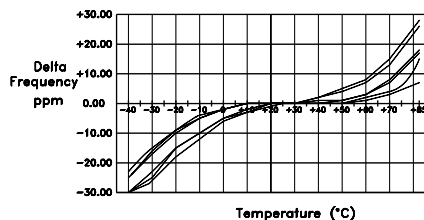

Fig. 10
**Frequency vs. temperature characteristics:** Figure 10 shows the frequency – temperature characteristics for a thickness-shear AT cut crystal. The AT-cut curve has an S-shape symmetrical to room temperature.